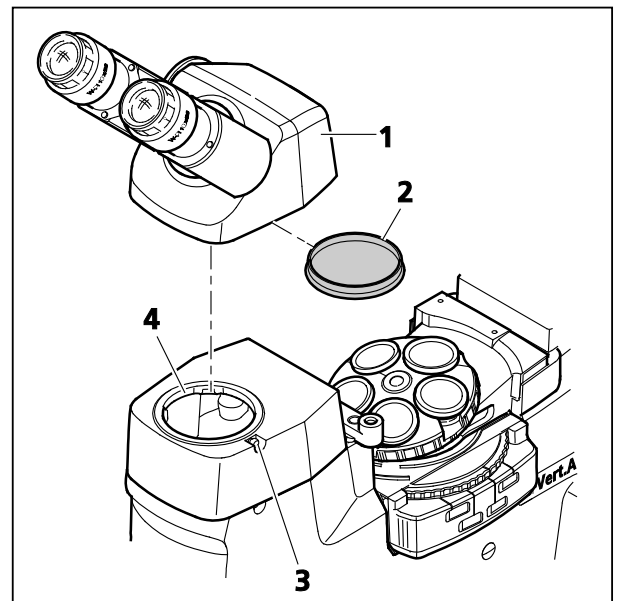

Fig. 3-2 Attaching the Binocular Tube
- Use ball-headed screwdriver SW 3 to loosen the Allen screw (Fig. 3-2/3) on the ergo intermediate piece. If necessary, hold the tube to be changed and remove it toward the front.
- Remove the dust cap from the tube to be mounted (Fig. 3-2/2) and from the ergo intermediate piece, as applicable.
- Insert the binocular tube (Fig. 3-2/1) with the dovetail ring into the tube port (Fig. 3-2/4) of the ergo intermediate piece, align it with the ergo intermediate piece and retighten the Allen screw (Fig. 3-2/3), using the ball-headed screwdriver.